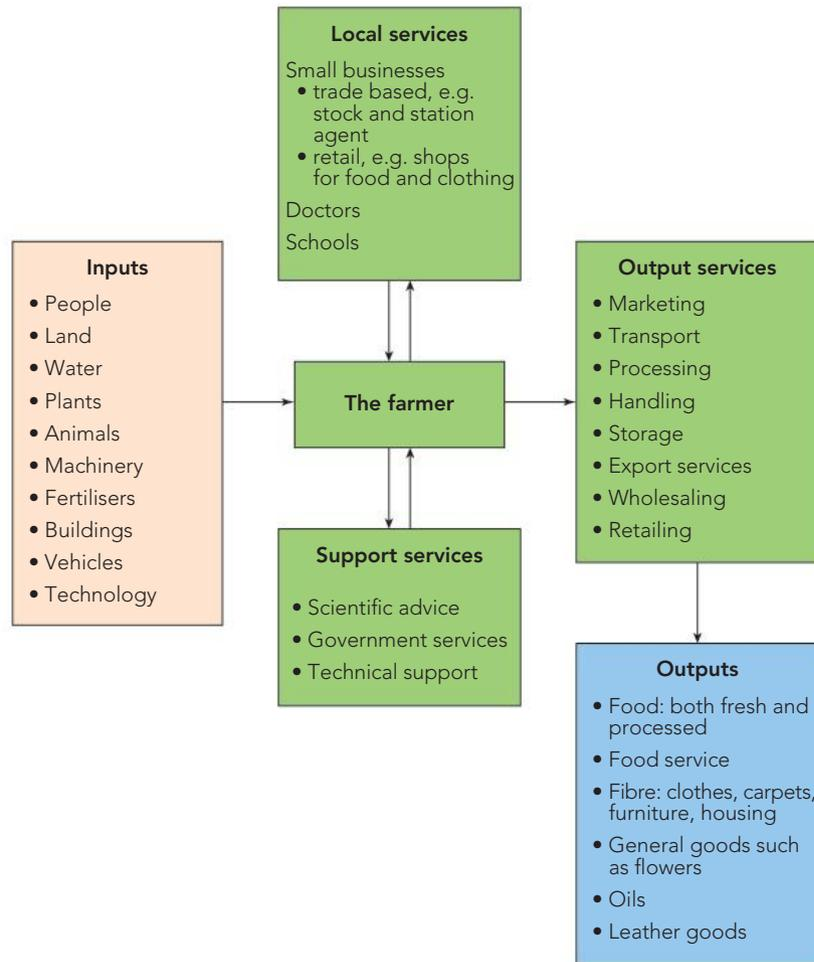

Figure 1.17 The agribusiness value chain
The term **agribusiness** arose from the work of Davis and Goldberg in 1957 to indicate that farms did not just produce food and fibre products but used inputs provided by local industries to run their farms. They also recognised that the final product derived from raw farm outputs often underwent further processing (known as **value adding**) along with a particular pattern of marketing and retailing. Agribusiness refers to activities in the production, processing and distribution of food and fibre products. Consequently, the farm is only one part of the system in this situation. The nature of farm products developed for particular markets and the range of processing, distribution and marketing arrangements are also part of the agribusiness system. We can adjust the boundaries of the agribusiness system even further and consider how farmers gain the skills and knowledge to develop local and overseas markets and the various mechanisms of government assistance. Figure 1.17 on page 14 illustrates the agribusiness value chain. Agribusiness is an interconnected chain of industries that either directly or indirectly support the production, processing (value adding), distribution and marketing of agricultural products.
- 11 Explain the information shown in Figure 1.17 on page 14.